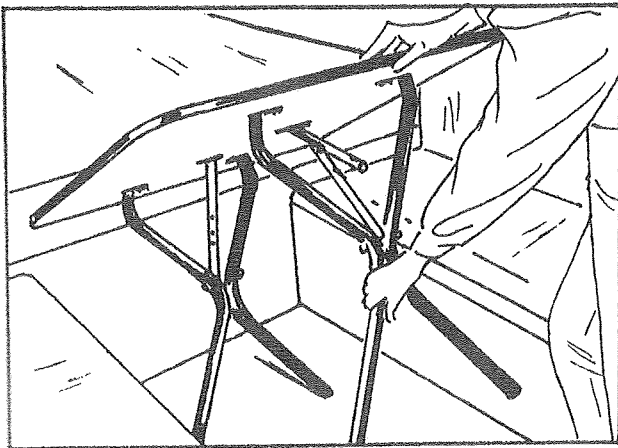

FIGURE 30
38. Extend the table legs completely so that both leg supports lock into position. Set table upright and check to insure it is stable. (See Figure 30.)
12. Lift the dinette table up on end. Apply pressure to the leg support locks and lower and secure legs by attaching the elastic cord over both dinette legs. See Figure 30.